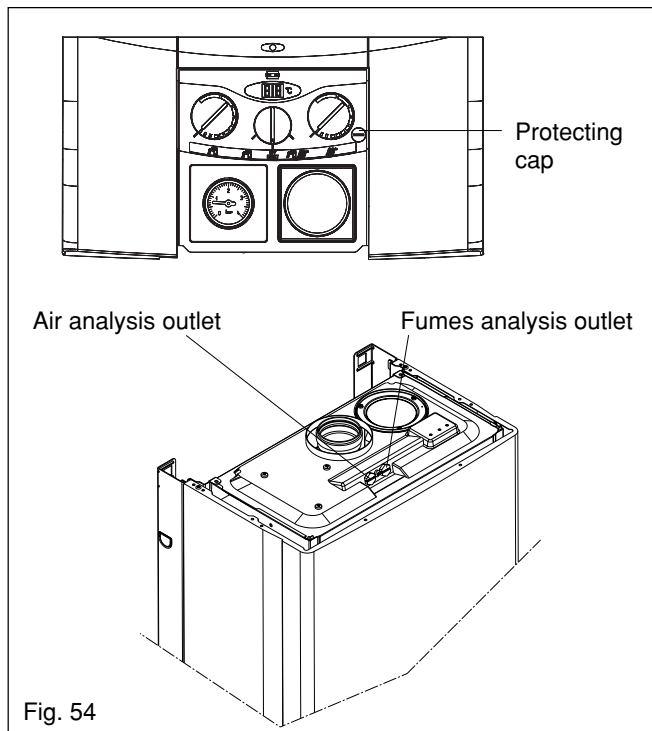

Fig. 54
- Insert the flue gas analyser probe into the right hand test point (see fig 54).
- Locate and remove the protective cap that conceals the 'CO mode' butto (see fig. 54).